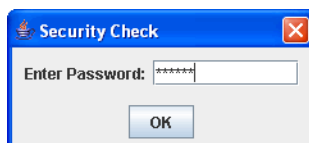

Figure 7-50 Security Check Dialog Box
- b. Click **Next**. The **Security Check** dialog box requests the Admin password, as shown in Figure 7-50.